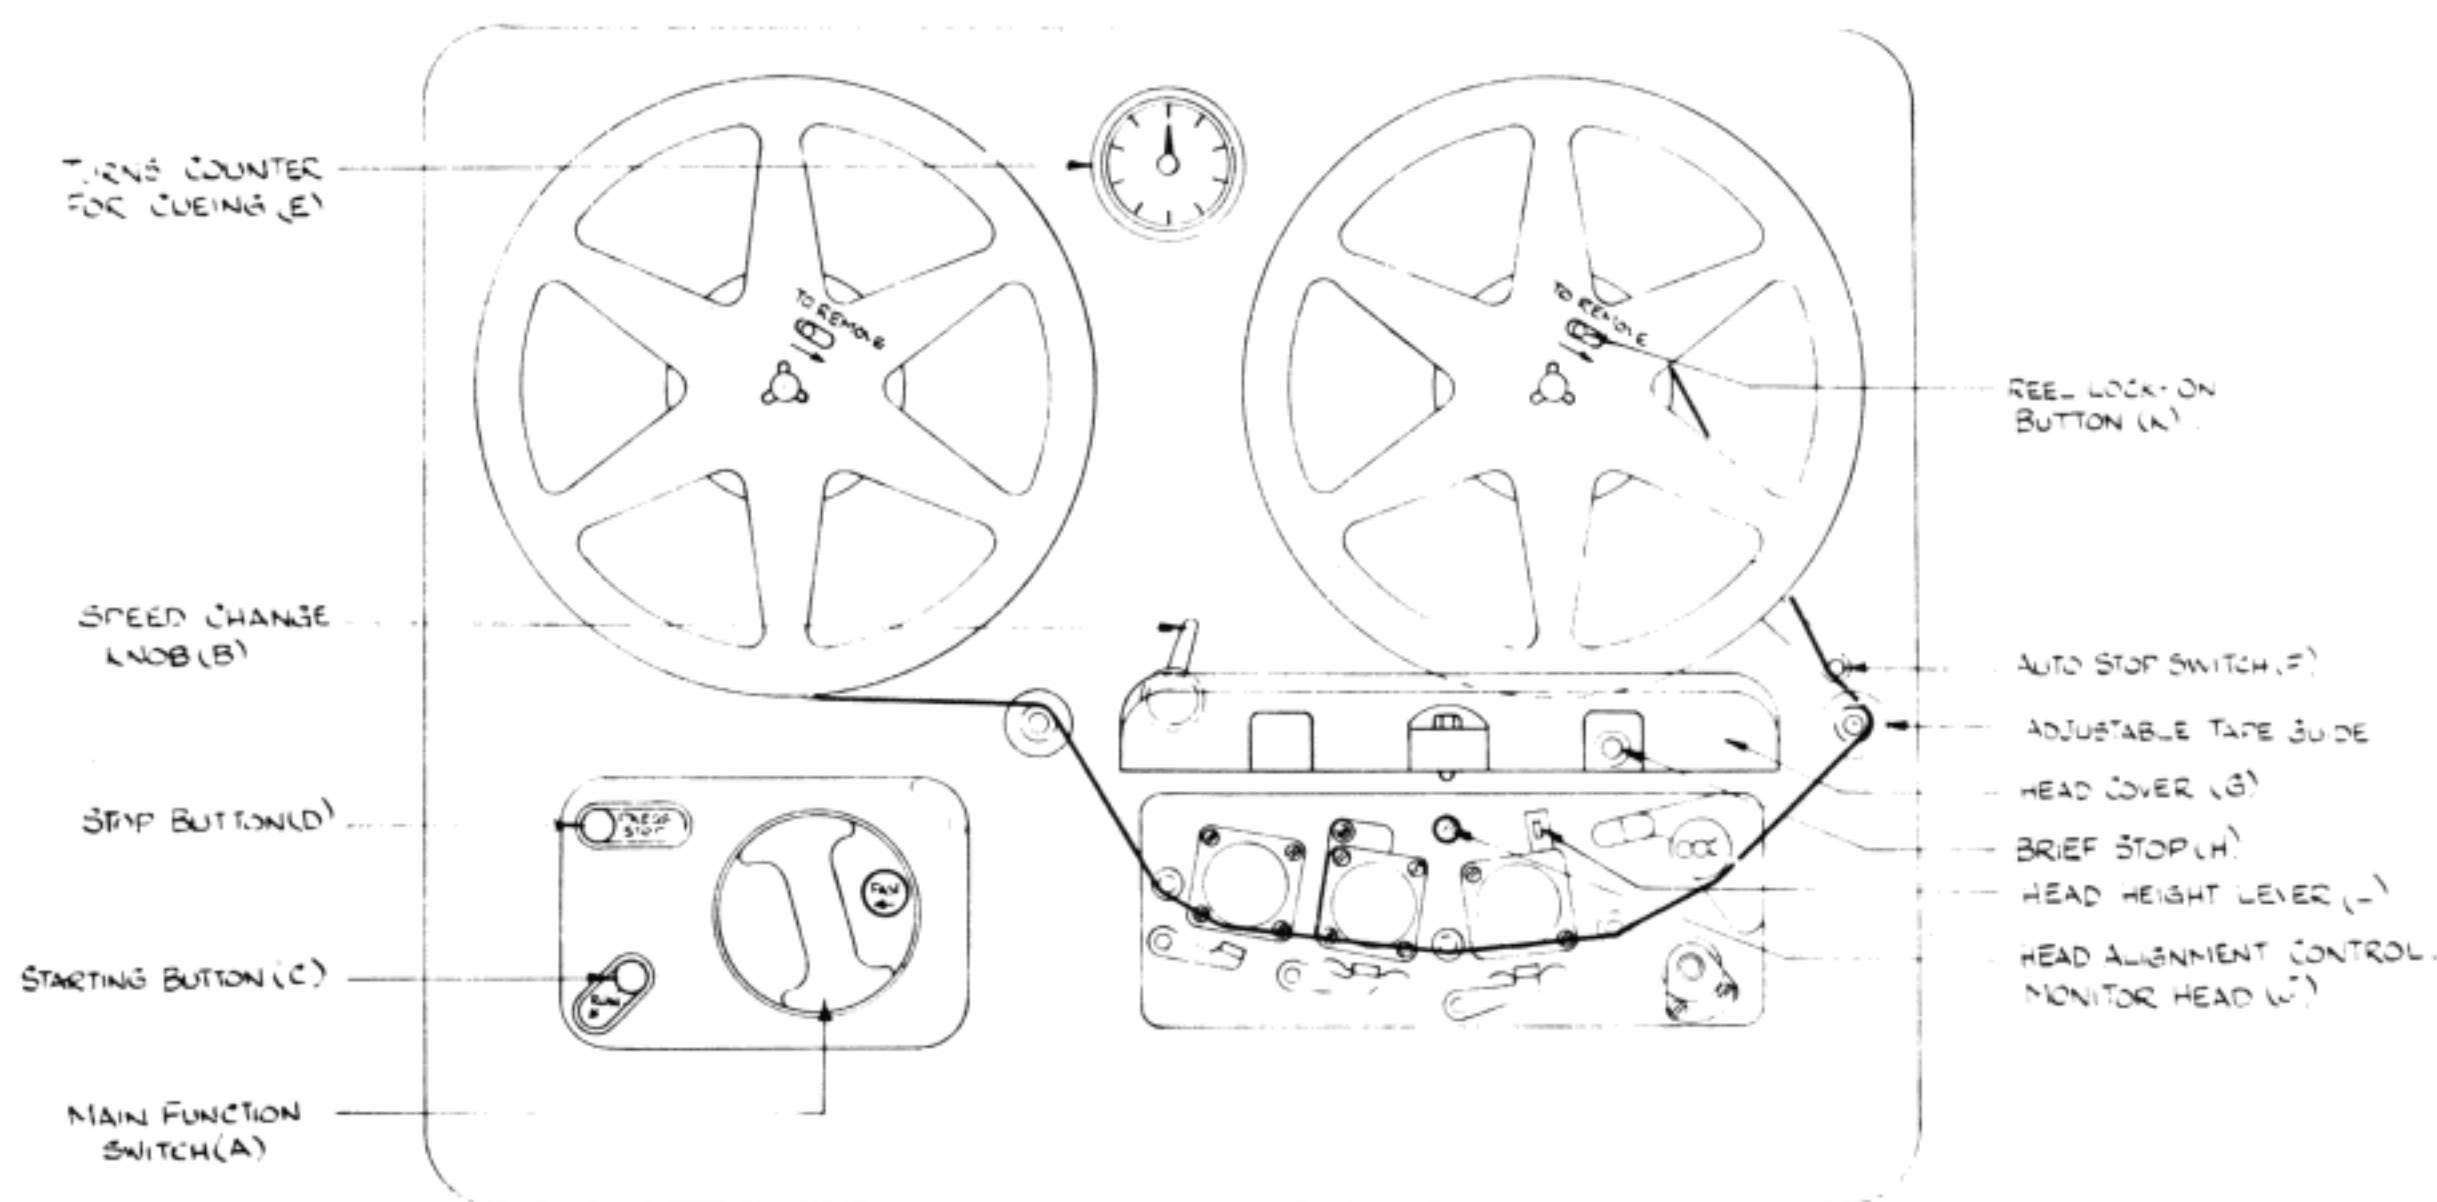

FIG. 2.
Main function switch knob (A, Fig 2.) must be in one of the "fast wind" positions. Open the head cover (G), drop tape between heads, pressure pads and capstan, and position over left hand guide and between right hand guide and auto stop arm as shown in Fig. 2.
On the model 424, check that the monitor head lever, (L in Fig. 2), is fully forward, *i.e.*, head is in "down" position.
It is useful at this juncture to set also the turns counter (E. Fig. 2) to zero by means of its centre knob, so that the tape can be wound back to this point after recording.